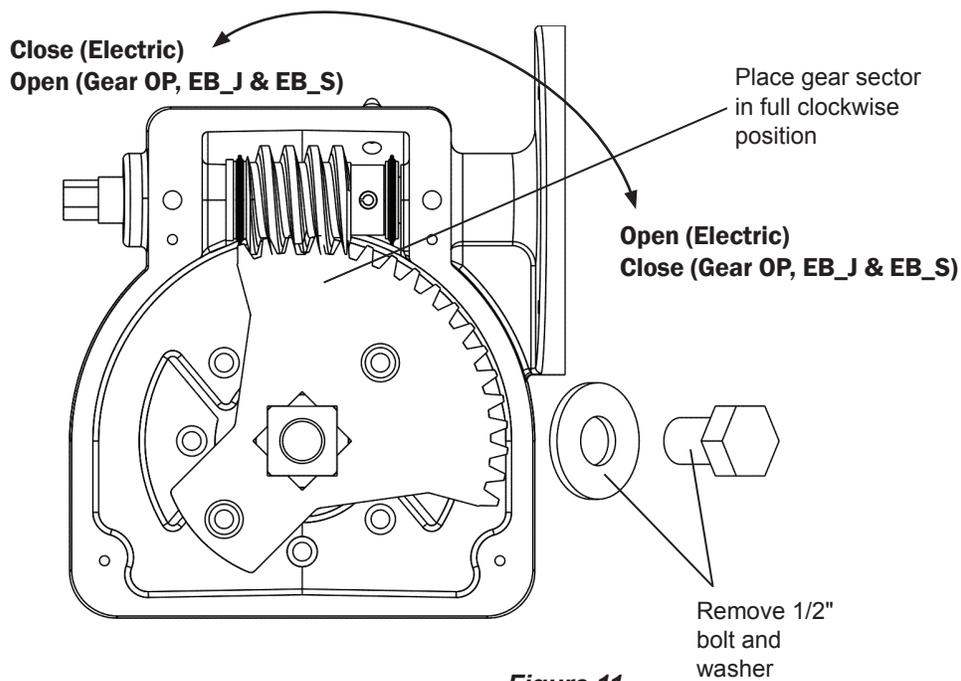

Figure 11
2. Remove the 1/2" bolt and washer that locks the actuator assembly in position. Remove actuator shaft. Remove gear sector and place in the full clockwise position as shown in Figure 11. This equates to the valve open position for electric actuators on all valves except EB_J & EB_S butterfly valves (The gear sector positions are opposite for the EB_J and EB_S butterflies with electric actuators). This full clockwise position also equates to the closed position for gear actuators on all valves.